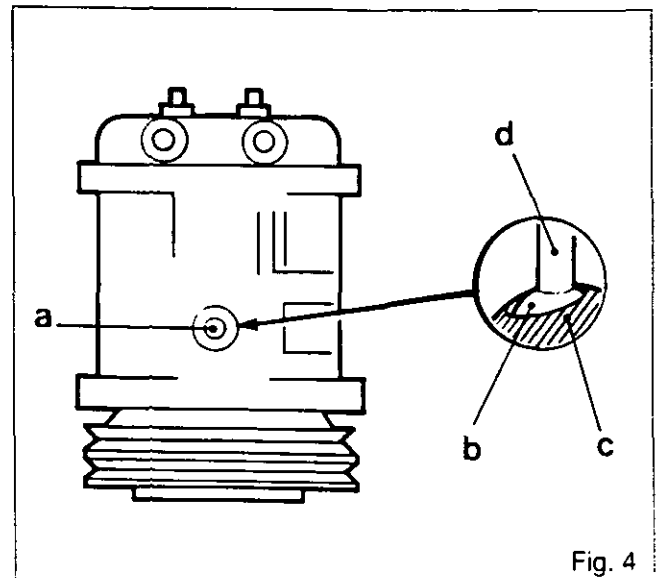

Fig. 4
- 4 - Remove the plug. Look through the oil filler hole then rotate clutch plate to correctly position the internal parts of the compressor, aligning them as soon as they start to move towards the front of the compressor (Fig. 4).